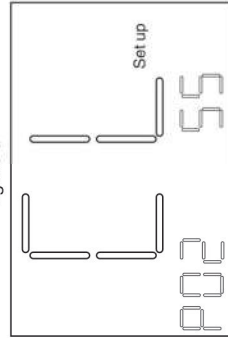

figure 6
3. Close direction (default: clockwise)The display interface in the direction of closure is shown in Figure 6:"CL" is displayed in the half of the screen, and internal control parameters are displayed in the lower left corner. The label "P02", the lower right corner shows "SS" (clockwise Pinyin). Abbreviations) and "nS" (anti-clockwise Pinyin abbreviation). At this point, the "sS" and "nS" are performed by the up and down keys of the remote control. "NS" switch, after modification, press the setting key of the remote control to confirm.